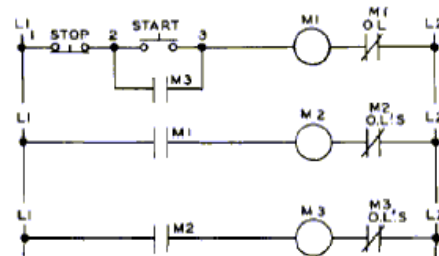

Fig.28 More than one starter control.
16. More than 1 starter, 1 Push Button Station Controls all (Fig.28)